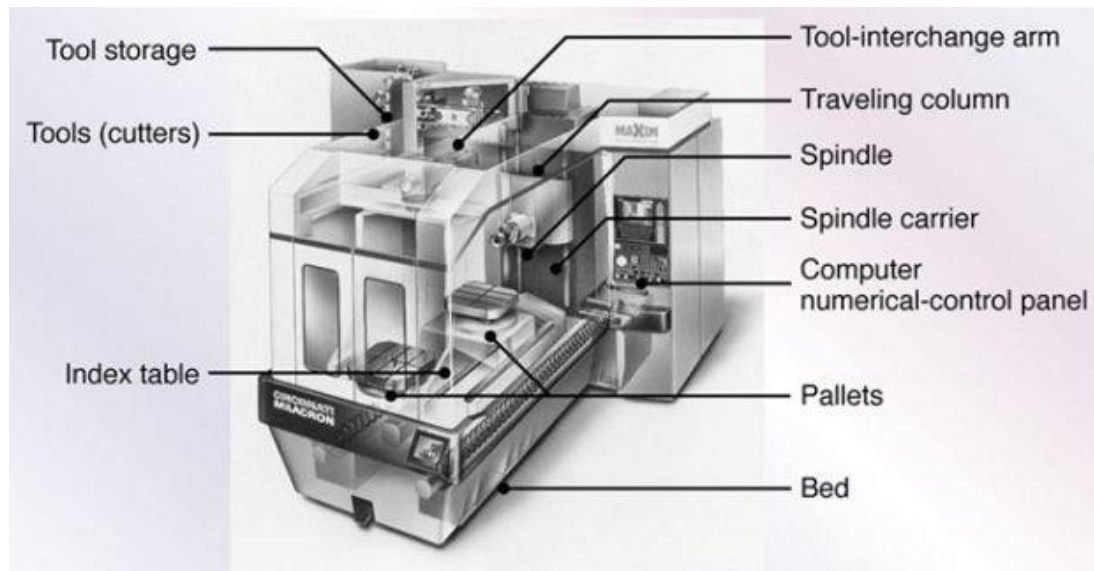

Figure 1
1. [a] A machining center as shown in Figure 1 is an advanced computer-controlled machine that performs a variety of machining operations on different surfaces and different orientations of a workpiece without the need to remove it from your workholding device.
- (i) Describe types and sizes of workpieces that would not be suitable for machining on a machining center. With sketches, provide **TWO (2)** specific examples. (4 marks)
- (ii) Based on Figure 1 above, identify **TWO (2)** components of machine tools that could be made of composites (polymer, metal or ceramic matrix) and justify why composites would be suitable for each component that you have selected. (2 marks)
- (iii) During machining process of an alloy steel bar, a very high amplitude and audible vibrations has occurred. As an engineer, you need to improve and modify the above machine structure (Figure 1) to solve that problem. Identify **TWO (2)** factors that induce the above problem and with the help of sketches, justify the **TWO (2)** modifications that you can make. (6 marks)